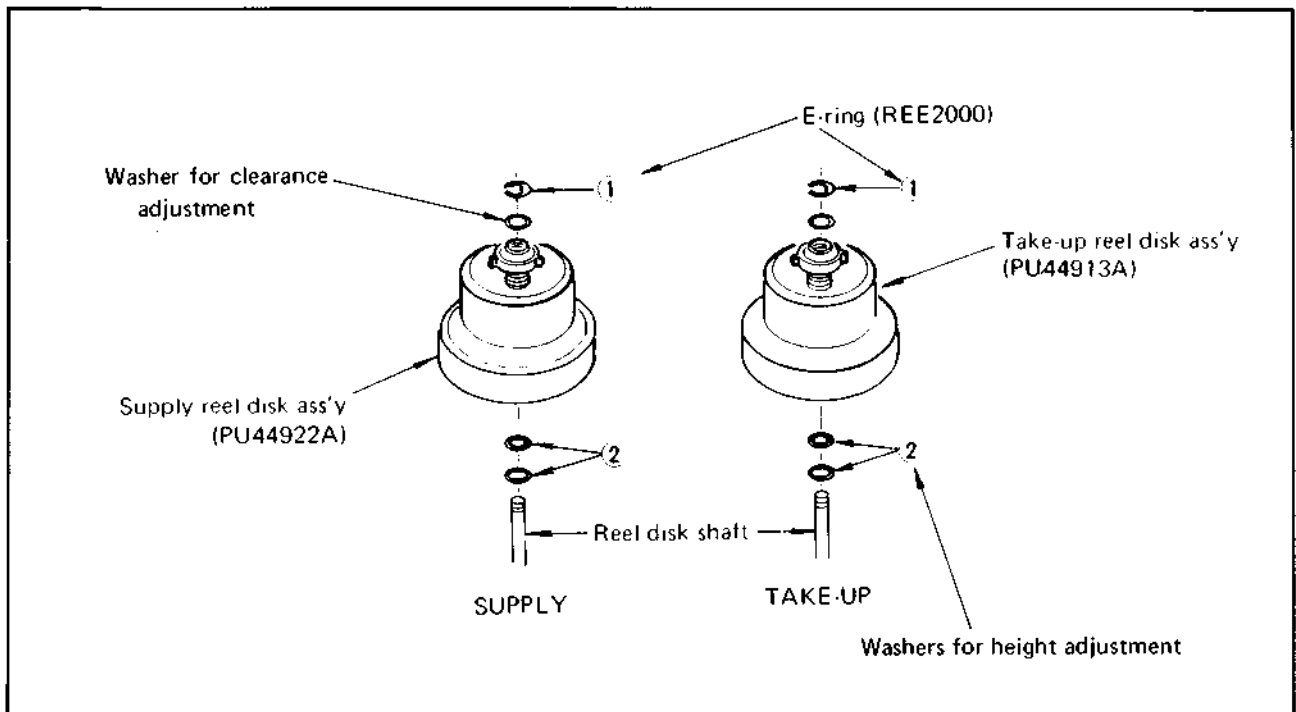

Fig. 4-8 Replacement of reel disk
2. Remove the E-ring 1 from the end of the reel disk shaft as shown in Fig. 4-8.